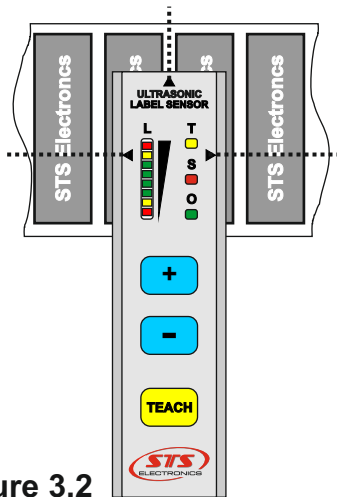

Figure 3.2
1. The label tape roller is positioned on the gap between the labels - Figure 3.2 taking into account the markers on the front face panel.